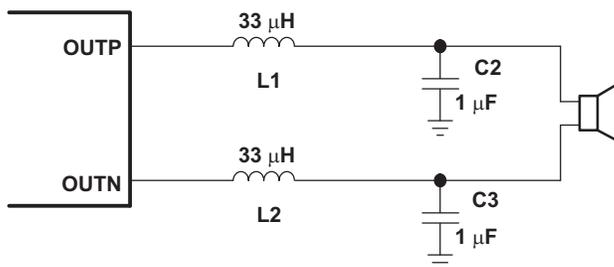
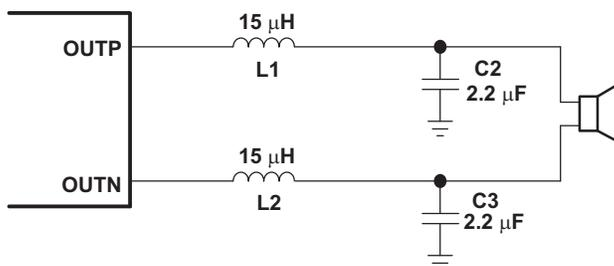

Figure 18. Typical LC Output Filter, Cutoff Frequency of 27 kHz, Speaker Impedance = 8 Ω
Figure 19. Typical LC Output Filter, Cutoff Frequency of 27 kHz, Speaker Impedance = 4 Ω
There may be a few circuit instances where it is necessary to add a complete LC reconstruction filter. These circumstances might occur if there are nearby circuits which are very sensitive to noise. In these cases a classic second order Butterworth filter similar to those shown in Figure 18, Figure 19, and Figure 20 can be used.
- Output filter: The ferrite EMI filter (Figure 20) must be placed as close to the output pins as possible for the best EMI performance. The LC filter (Figure 18 and Figure 19) must be placed close to the outputs. The capacitors used in both the ferrite and LC filters must be grounded to power ground.